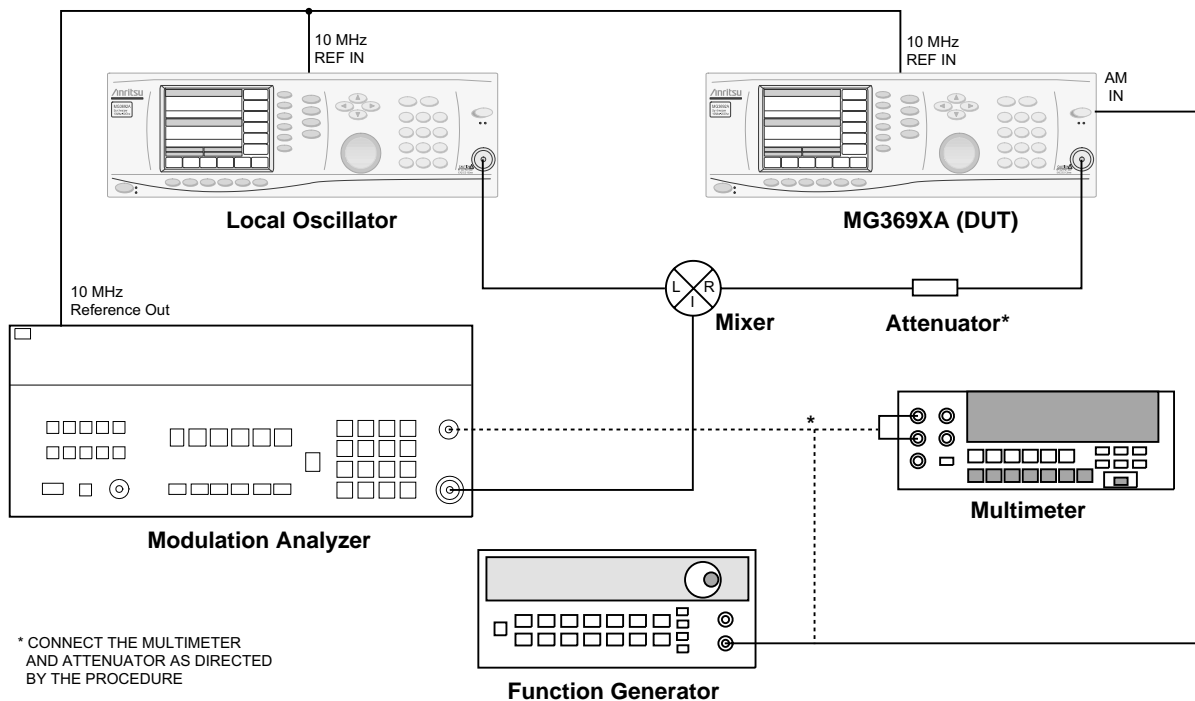

Figure 3-13. Equipment Setup for Amplitude Modulation Tests
Connect the equipment, shown in Figure 3-13, as follows:
Step 1. Set up the equipment as shown in Figure 3-13.